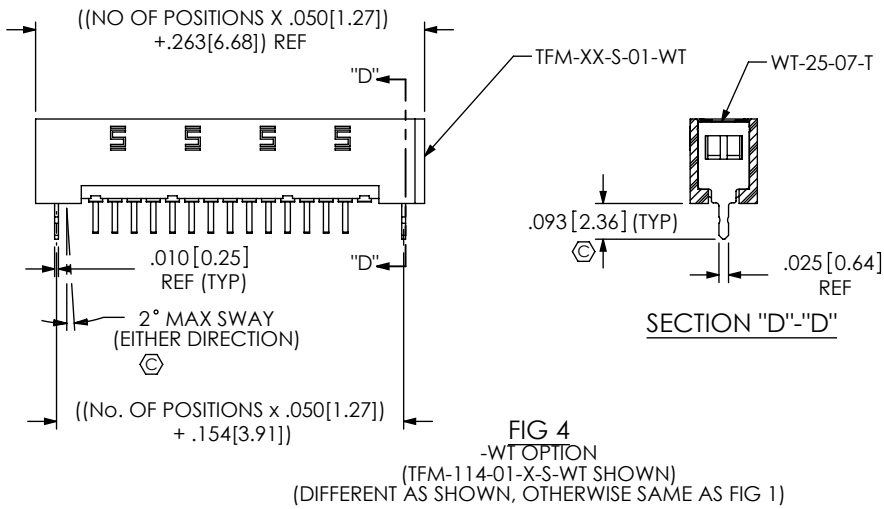

FIG 4
-WT: WELD TABS (USE WT-25-07-T) (SEE FIG 4, SHEET 2) (AVAILABLE ON -02 THRU -30 POS ONLY) (NOT AVAILABLE WITH -A OR -LC OPTIONS)